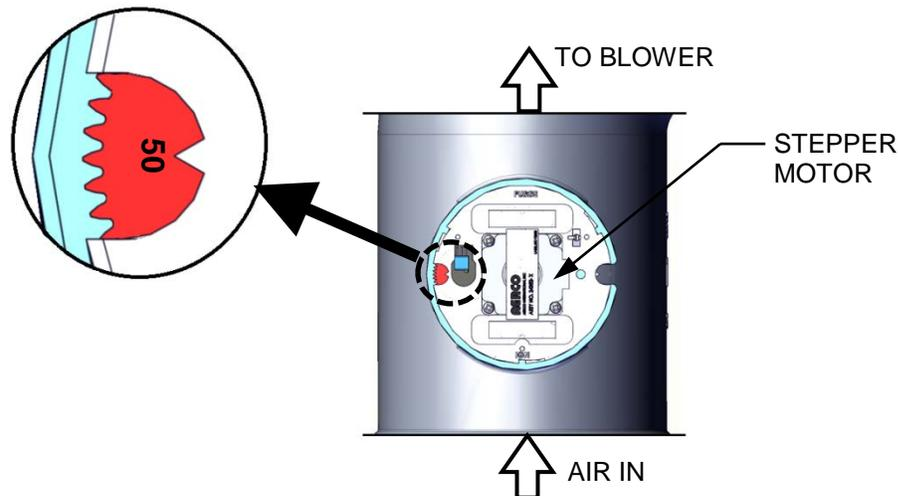

Figure 3-6: Air/Fuel Valve In Ignition Position
- a) The Air/Fuel Valve rotates to the low-fire (Ignition Position) position and closes the ignition switch. The dial on the Air/Fuel Valve will read between **45** and **50** (Figure 3-6) to indicate that the valve is in the low-fire position.